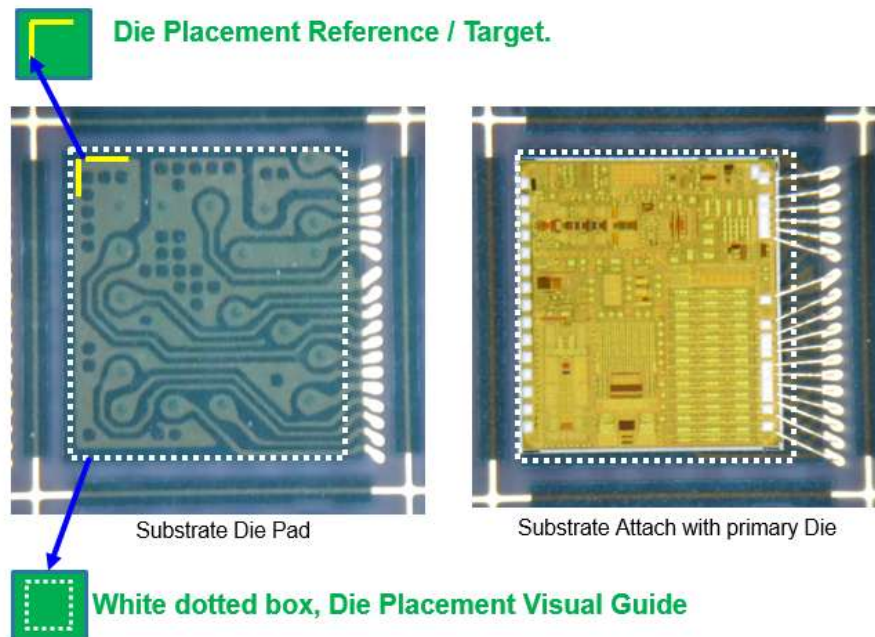

Fig. 5. Improved substrate-based electronic package with specialized marker as die placement reference.
- The specialized marker in yellow line in Fig. 5 serves as the reference and target die placement, based on the requirement during machine setup, with the silicon die must be at the center on the pad (white dotted box)